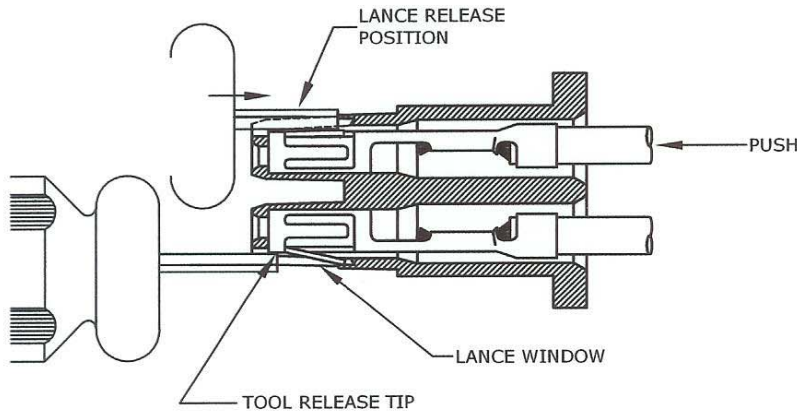

FIGURE 2
The MiniMate® contact has a retaining lance that can be released through an access window located in the front of the housing as shown in Figure 2. The Extraction Tool has a protrusion that is inserted into the window to depress the lance the correct amount for contact removal.
2. Engage the tip of the Extraction Tool in the lance window as shown in Figure 2. With downward pressure, push the tool toward the back of the window to release the lance.